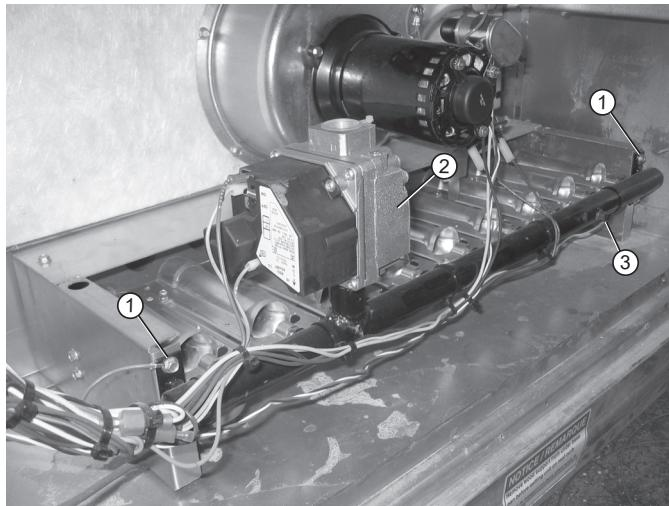

Fig. 34 — Burner Tray Details
7. Slide the burner tray out of the unit. (See Fig. 34.)
3. Remove manifold pressure tap plug from manifold and connect pressure gage or manometer. (See Fig. 34.)
12. Turn off unit, close manual gas shut off valve, remove pressure manometer and replace the 1/8-in. pipe fitting on the gas manifold. (See Fig. 34.)